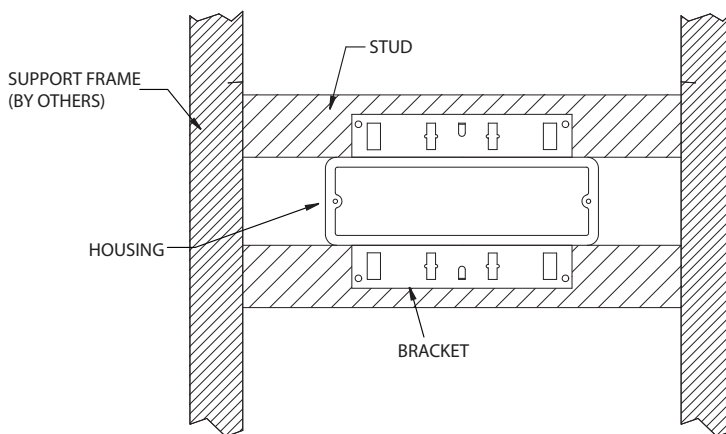

FIG. 5
5. If desired, brackets can be mounted directly to framing members as shown in FIG 5.